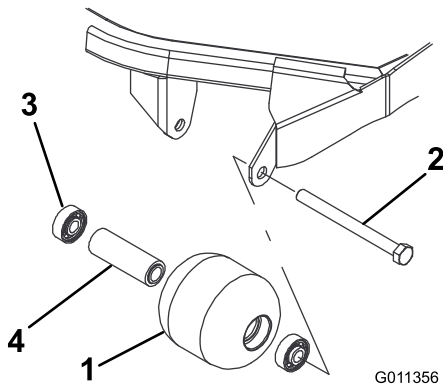

Figure 70
1. Remove the roller mounting bolt (Figure 70).
4. Inspect the roller housing, bearings, and bearing spacer for damage (Figure 70). Replace damaged components and assemble.
1. Press the first bearing into the roller housing (Figure 70). Press on the outer race only or equally on the inner and outer race.
2. Insert the spacer (Figure 70).
3. Press the second bearing into the roller housing (Figure 70) pressing equally on the inner and outer race until the inner race comes in contact with the spacer.